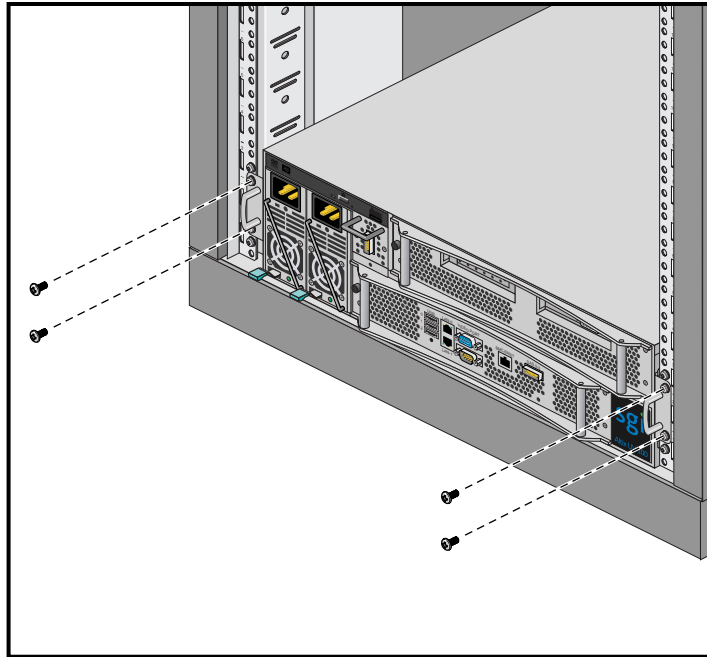

Figure 7-4 Secure the Altix UV 100 IRU to the Front of the Rack
1. Secure the IRU within the rack by screwing in the four T25 screws that hold the unit's "ears" to the rack's front vertical rails. See Figure 7-4 on page 90 for an example.